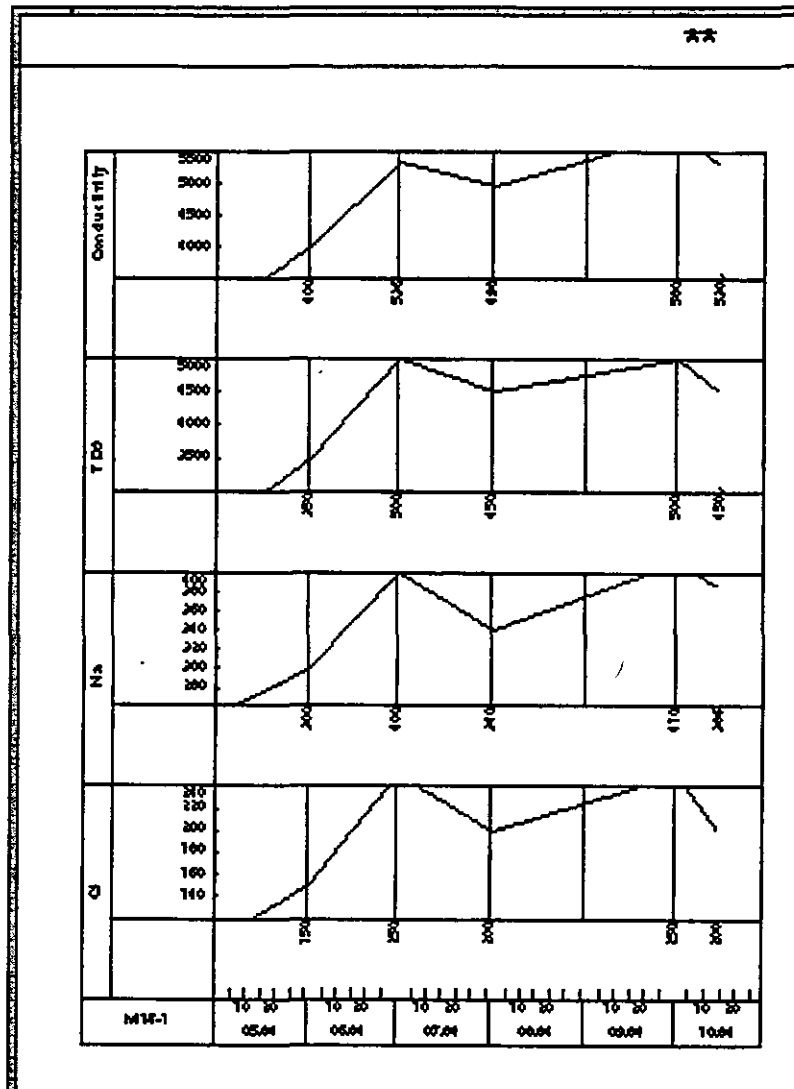

Figure 20-23
14. Now you may see immediately the graph. Click on Display. The default parameters are used to display this graph. The display is as shown in Figure 20-23.